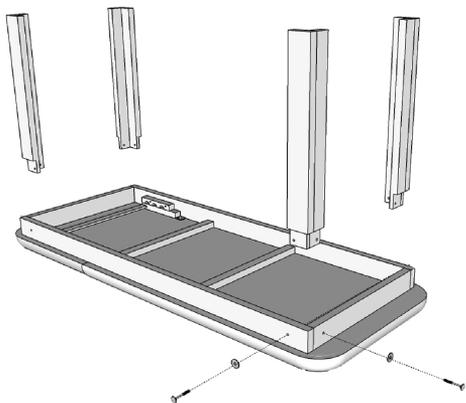

Fig. 7
3. Open the Pluriball packing. Unscrew and remove the nuts and washers from the bolts. Turn the couch upside down. Insert the legs in their seats using the numbering on the legs as a guide. Insert the bolts as shown in Fig.7. Fit and tighten the nuts.